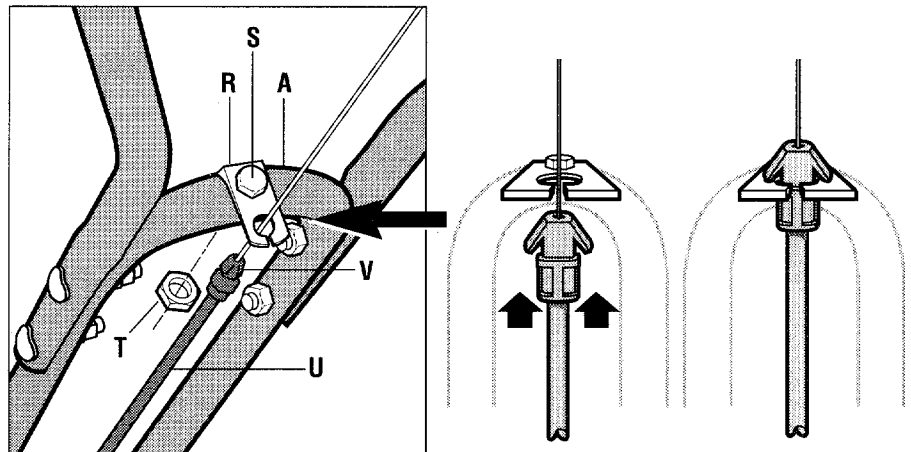

Fig. 2-4: Installing wheel drive cable bracket and cable.
- (1) Cable bracket (see R, Fig. 2-4).
1. Place the cable bracket (R, Fig. 2-4) on the handlebar support (A) as shown.
2. Attach the cable bracket using a 1/4"-20 x 1-1/4" hex hd. screw (S, Fig. 2-4) and 1/4"-20 hex locknut (T). Tighten securely.
3. Unwrap the forward clutch cable (U, Fig. 2-4) from around the engine and slide the thin cable wire into the slot in the cable bracket. Push the cable connector (V, Fig. 2-4) up through the hole in the bracket until the groove in the connector snaps into place on the bracket.